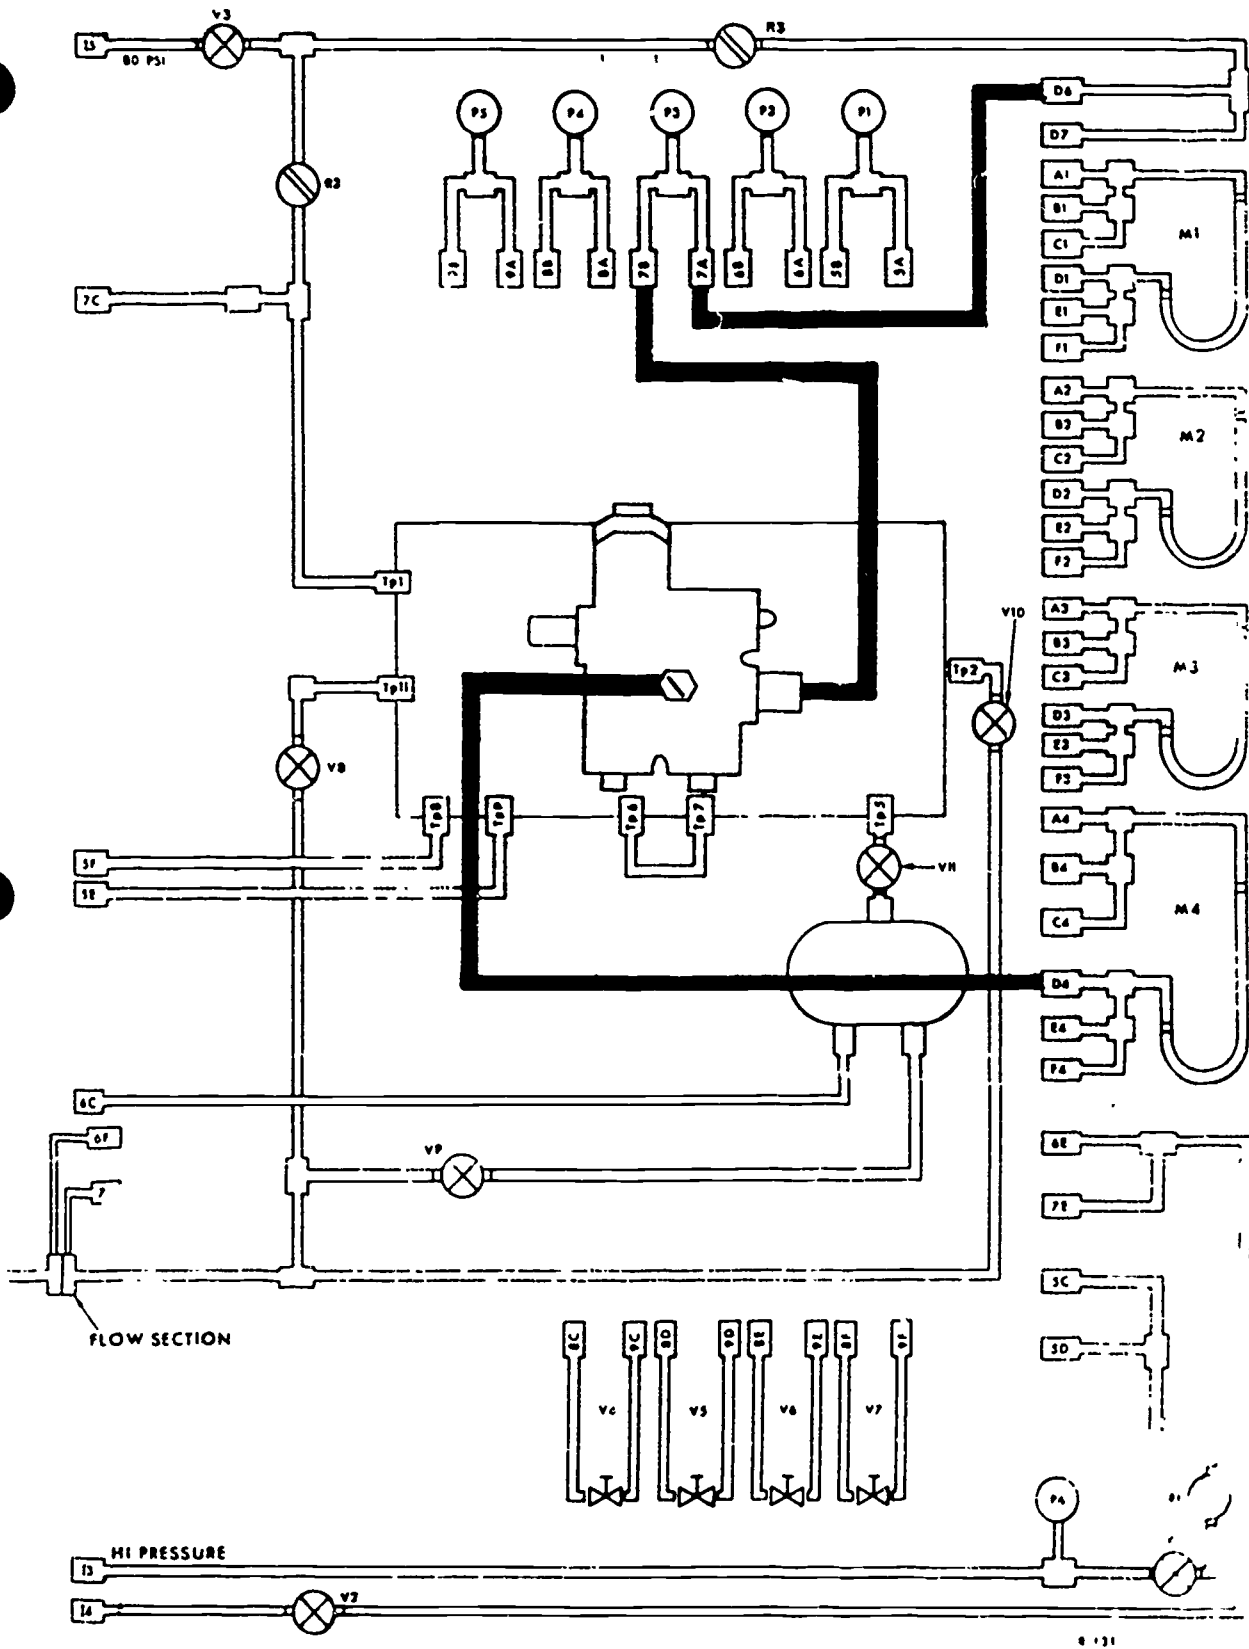

Figure 4. First Stage Inlet Valve Assembly Test Hook-up
3. Refer to figure 4 of this workbook as you connect the anti-G suit valve to the trainer.